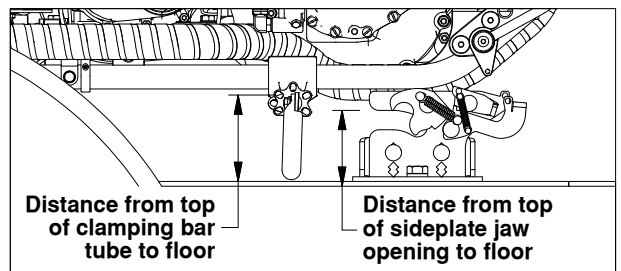
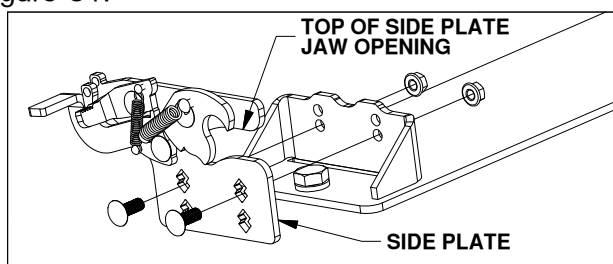

FIGURE C1: View of side of trailer.
Figure C2: View of Biker Bar base.
1. **Measure clamping bar on bike.** With the clamping bar installed and while sitting on the bike, measure the distance from the top of the clamping bar tube to the trailer floor, see Figure C1. Check dimension on both sides of the bike to ensure bike is even side to side.
2. **Adjust base height.** Adjust the positions of the side plate and the 3/8 carriage bolts. The height of the side plate can be adjusted in 1/4" increments, see figures C2 & C3. Set the side plate so that the measurement taken from top of the side plate jaw opening is at the same height as the top of the clamping bar tube, or in the next position lower, see figure C1.